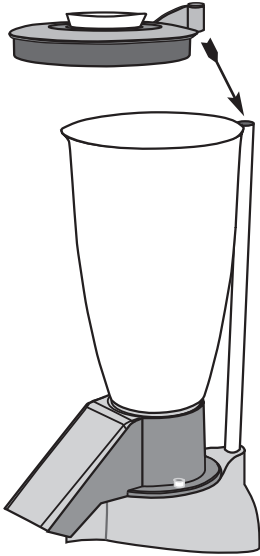
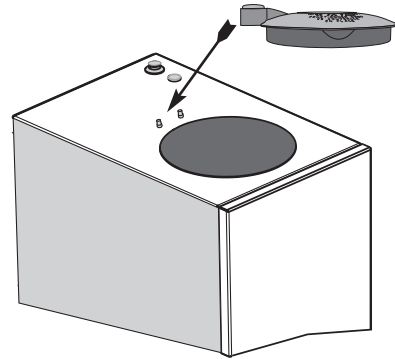

Fig. 5
Fig. 6
- 4 On model V90, fit the lid on the container so that the magnetic sensor is in contact with the end of the safety arm (Fig. 5). On model V100, fit the lid so that the magnetic sensor is between the two positioning screws (Fig. 6).